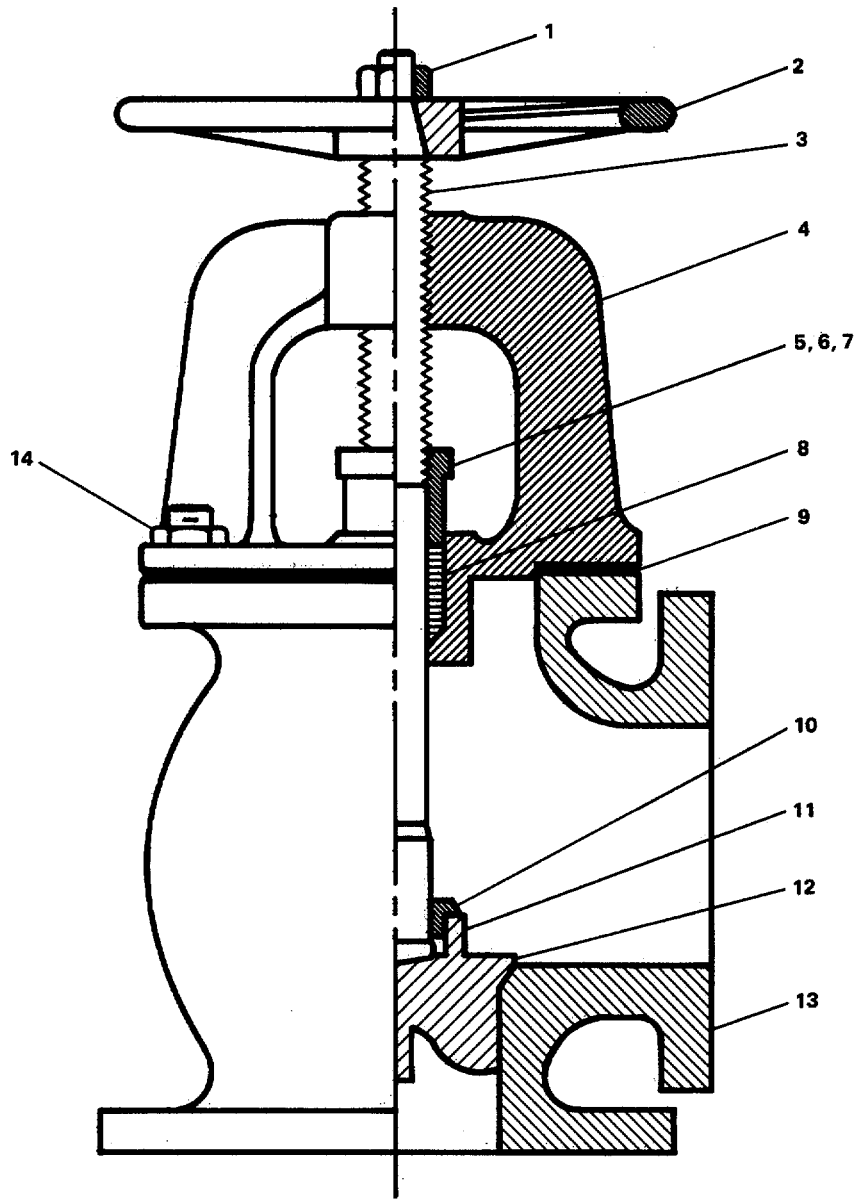

FIGURE 3-195. 4-Inch Three Way Ball Valve. Repair.
- c. Install stem (3).
- d. Install packing material (8).
- e. Install gland stud (7), gland packing (6), and gland nut (5).
- f. Install gasket (9).
- g. Install valve cap (4).
- h. Install plain hexagon nut (14).
- i. Install handwheel (2).
- j. Install wheelnut (1)
**3-207. Repair 4-Inch Three-Way Ball Valve. (Figure 3-195)**